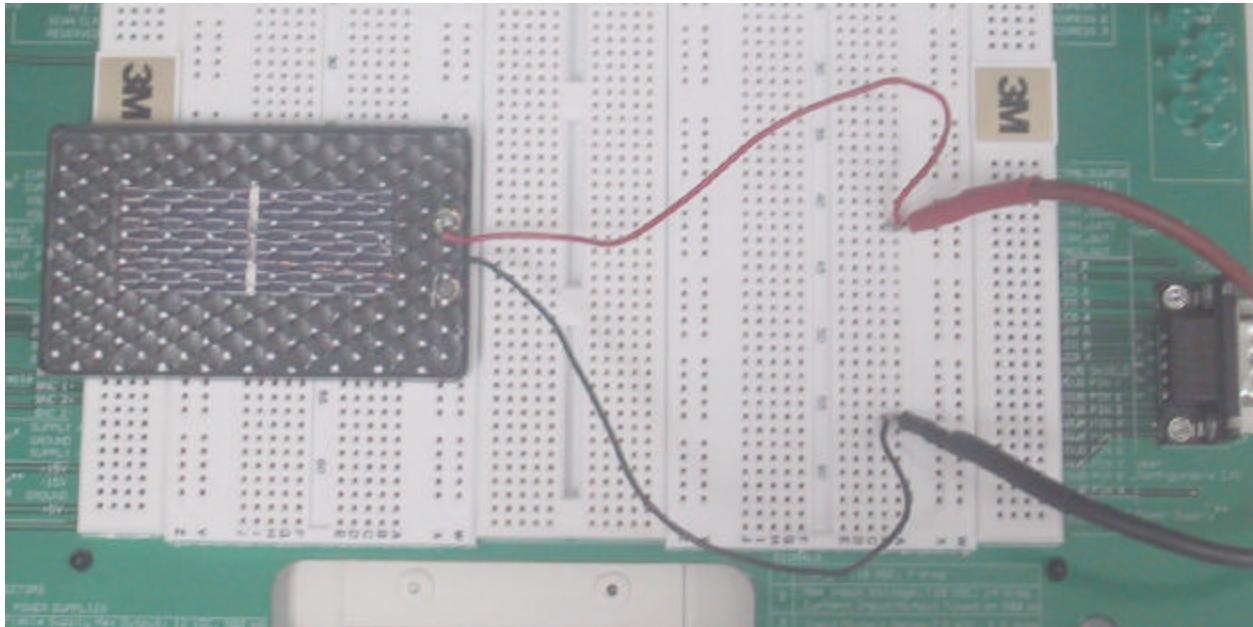

Figure 2.8
- A. The following connections are shown in Figure 2.8. Connect the red lead from the solar panel to a node on the breadboard. Connect the black lead from the solar panel to a different node on the breadboard.
- B. Connect the red lead to the red lead from the DMM. Connect the black lead from the DMM to the black lead on the breadboard as shown in Figure 2.8. Turn on the HP DMM. Observe the voltage across the solar panel. You do not need to record it at this time. This is a check to see that the solar panel is working. Disconnect the HP DMM for now.